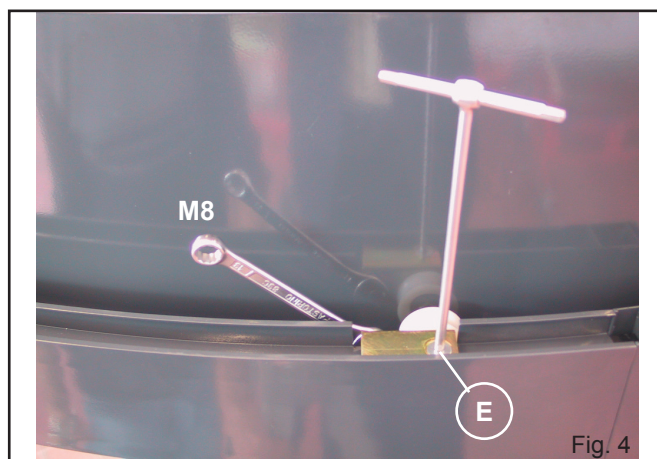

Fig. 4
- (Fig. 4) Shift the motor unit [1]-[3] up over the pillar [15] and align the three holes in the rotating plate with those in the pillar [24].
- (Fig. 4) Insert extensions [22] in pillar [15] in accordance with the numbers specified, and firmly tighten the screws M12 provided.
- (Fig. 4) Fix the curved edges [18] and the rods [26] on the furniture door wings.
(Fig. 4) (Figure 4) Adjust wing height proceeding as follows: